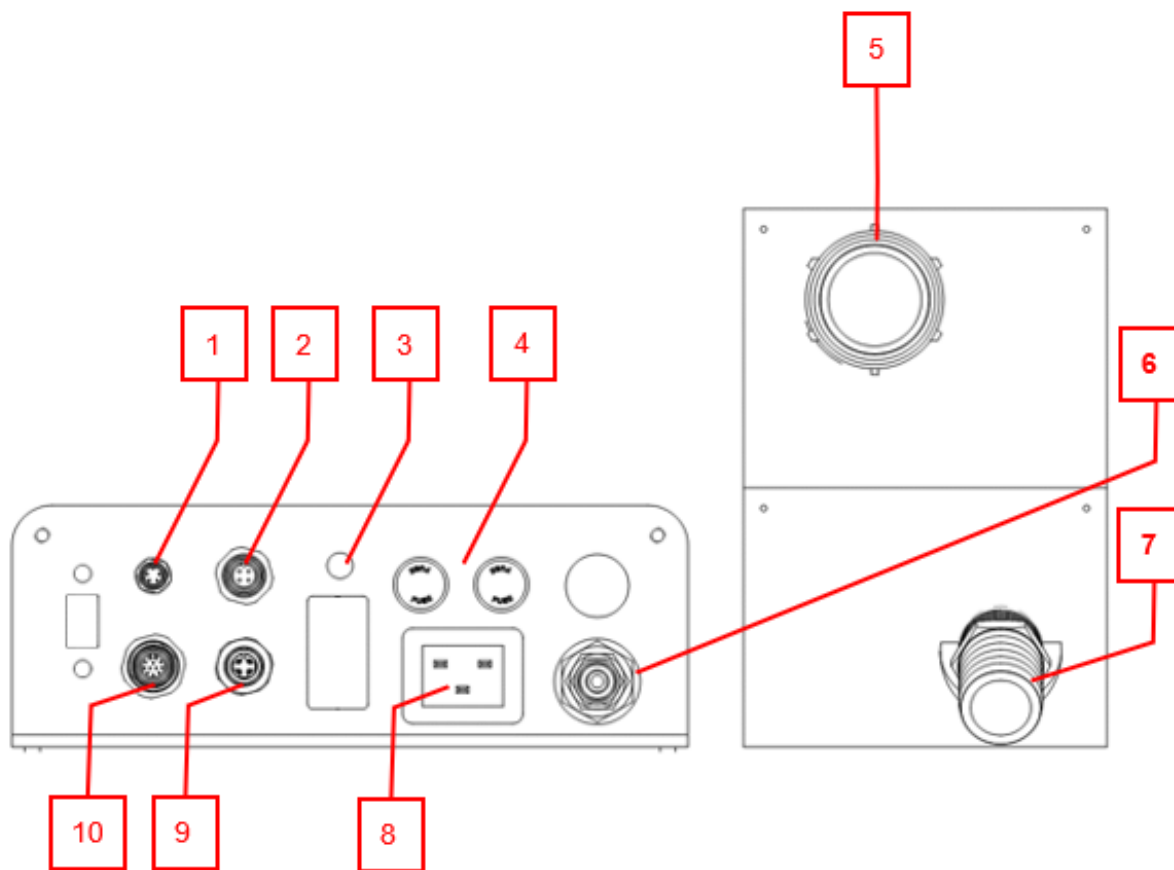

Figure 6: Cee® Apogee® 450 Flange Spin Developer Facilities Connections
3. Connect utilities per the reference diagram in *Figure 6: Cee® Apogee® 450 Flange Spin Developer Facilities Connections*.